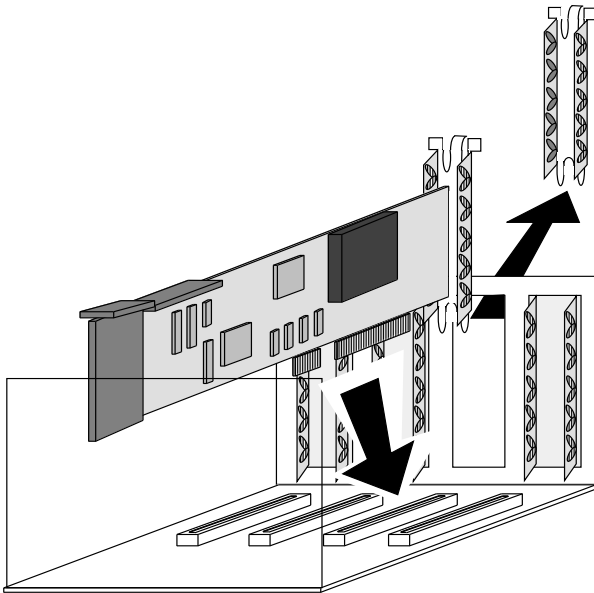

Figure 2-9. Installing the T3015 Adapter
- Remove the protective backplate from the selected slot, as shown in Figure 2-9. Loosen the thumbscrew holding the backplate in place over the selected slot, and slide the backplate out of the slot.
- Orient the adapter so that the ports face out the back of the PC as shown in Figure 2-9.